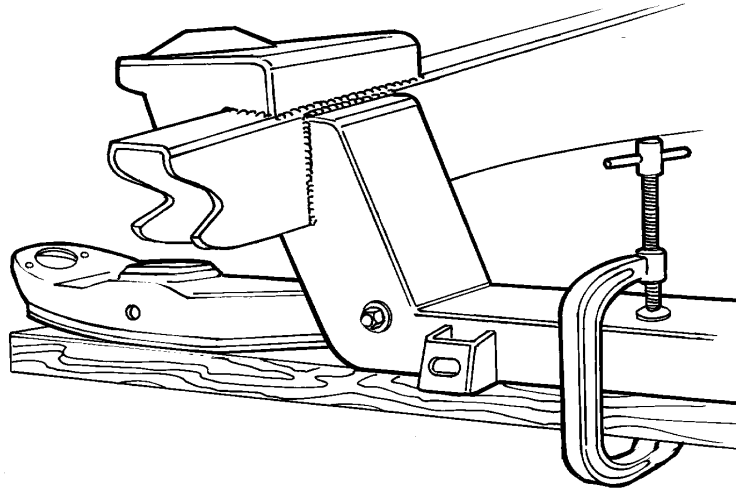

Figure 7
9. If you are using factory lower control arms and strut rods you will continue here. Use the lower control arm and strut rod for locating the rear strut rod supports and gussets. Using a 2 x 4 and a C-clamp, install the control arm as shown in Figure 7.